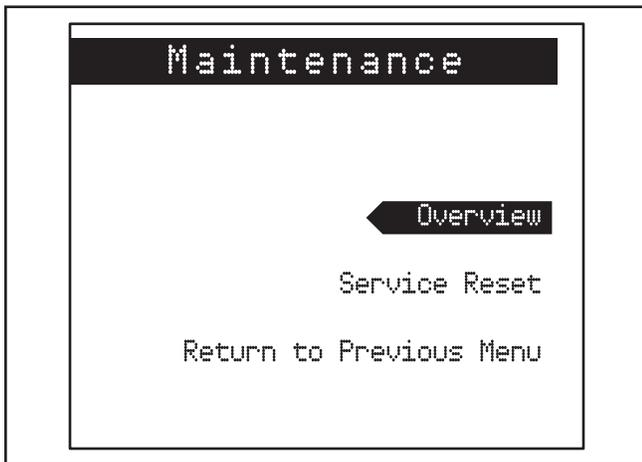

Figure 7: Maintenance Menu
1. From the Main Menu select Maintenance Schedule (see Figure 7), then select Overview. The display console will report the time remaining before the next change is required for Air Cleaner, Oil & Filter, and Spark Plug(s).